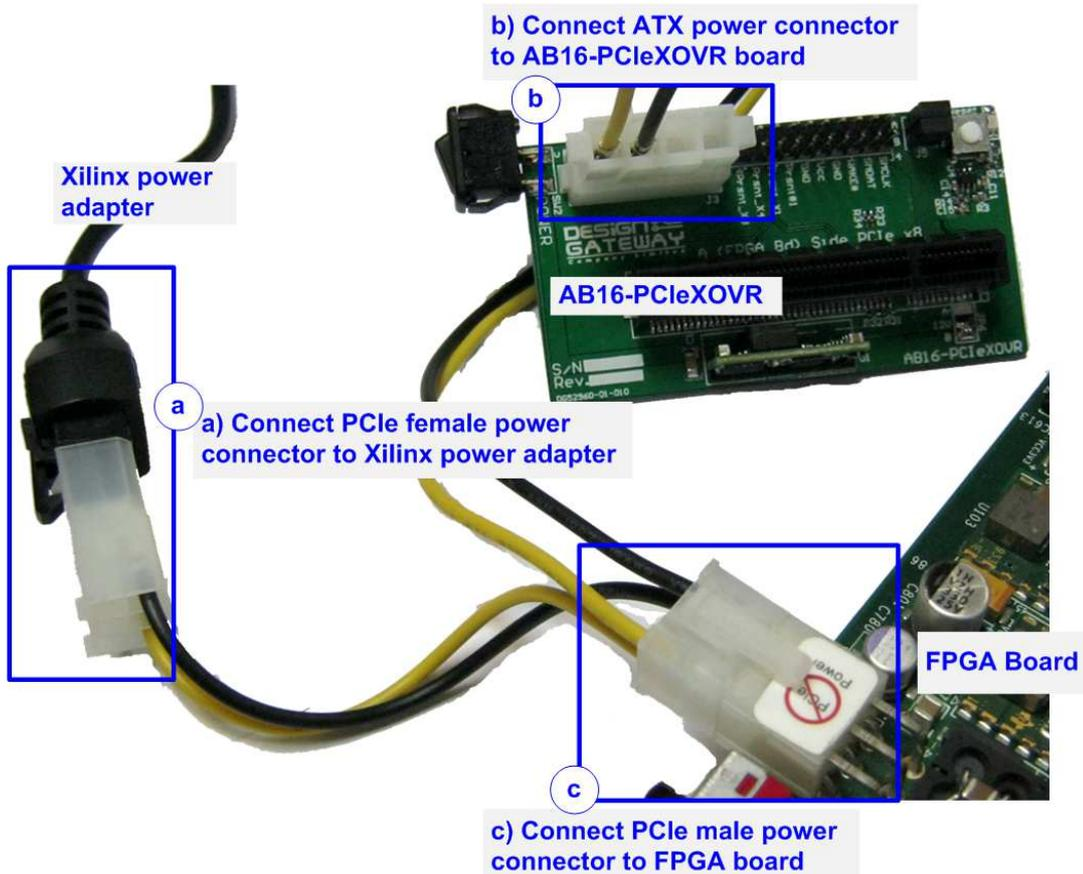

Figure 2-3 Connect power adapter cable to FPGA board, AB16, and Xilinx adapter
- 3) Connect three connectors on power adapter cable from AB16-PCIeXOVR delivery set to Xilinx power adapter, AB16-PCIeXOVR board, and FPGA board as shown in Figure 2-3.